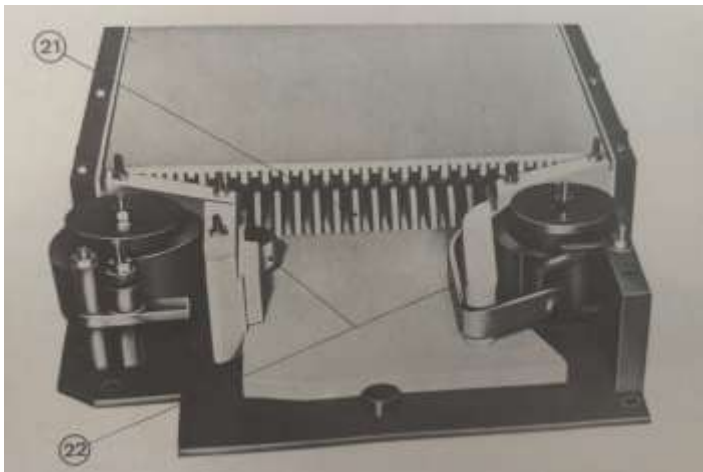

Figure 2: Ceramic plates & Arc runners
| Figure 2: Ceramic plates & Arc runners | 7 |
Remove the interphase barrier and bolts fastening the arc chutes to the front insulating support (3) (fig. 2); tilt the arc-chute on pin (2) (fig. 2).